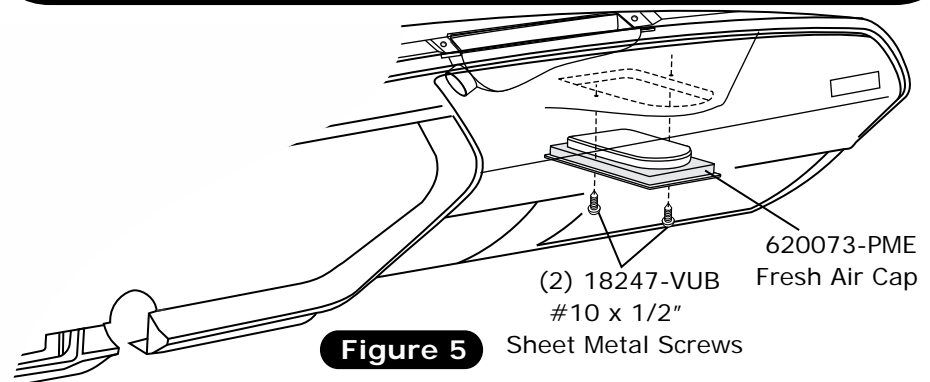

Figure 5
1. Using (2) #10 x 1/2" sheet metal screws install the fresh air cap as shown in Figure 5, below.